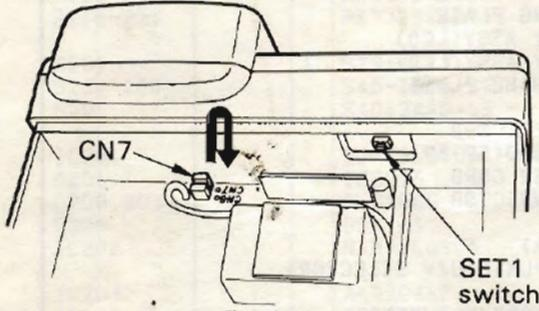

fig. 1
- 5-3. Remove the top cover and as shown in the fig. 1 remove the 2-pin connector (CN7) and shift it to the ○ mark side.
- 5-4. Press and hold the SET 1 switch as shown in the fig. 1.